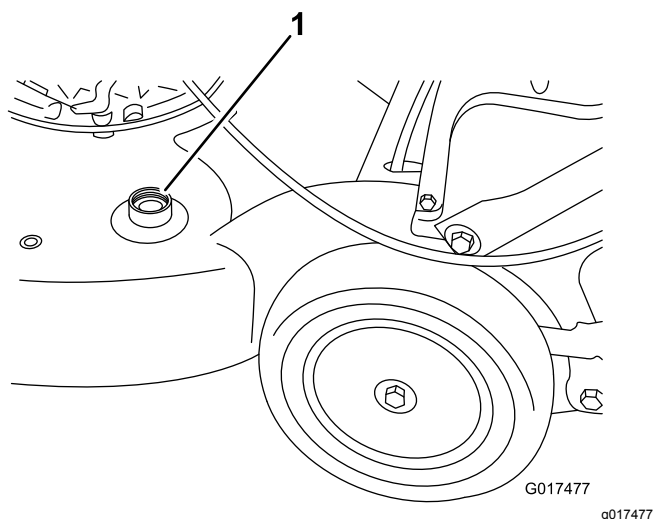

Figure 40
3. Attach a garden hose that is connected to a water supply to the washout port (Figure 40).